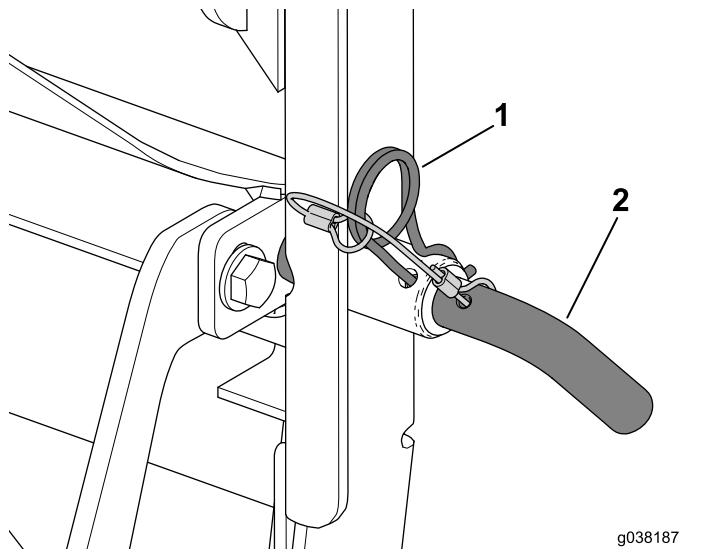

Figure 16
2. Insert the lock pin through the bagger frame and cross brace (Figure 16).
3. Use the hairpin cotter to secure the lock pin (Figure 16).